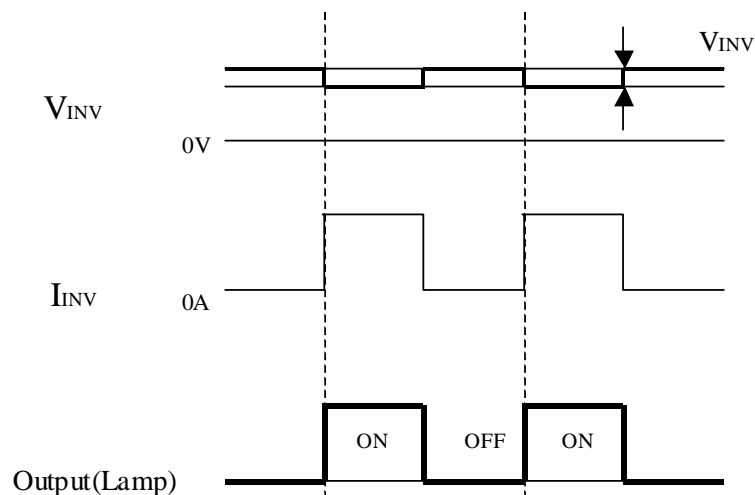

Fig.5 Brightness control and ripple of V_{INV}
- c) Brightness control voltage is switched for "ON" and "OFF", as shown in Fig.5. Voltage difference generated by this switching, V_{INV} , may affect a sound output, etc. when the power supply is shared between the inverter and its surrounding circuit. So, separate the power supply of the inverter circuit with the one of its surrounding circuit.